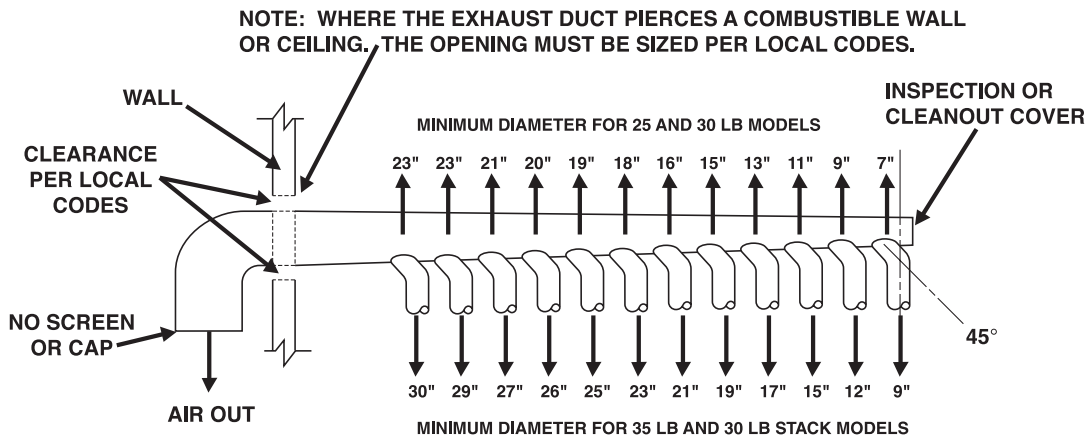

Figure 4
2. All duct work must be adequate in size. (see figure 4).
2. All duct work must be adequate in size. (see figure 4)